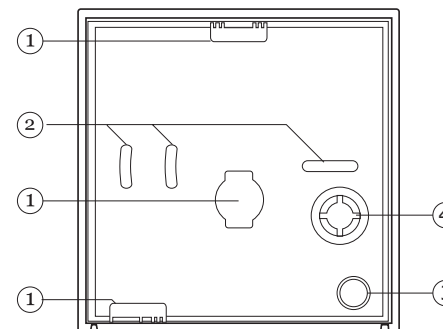

Figure 1: Cable entry (1), mounting holes (2), back tamper aperture (3), sounder aperture (4)
- Mount the keypad using M4/M3.5 screws. Mounting and cable holes on the back plate are shown in Figure 1.